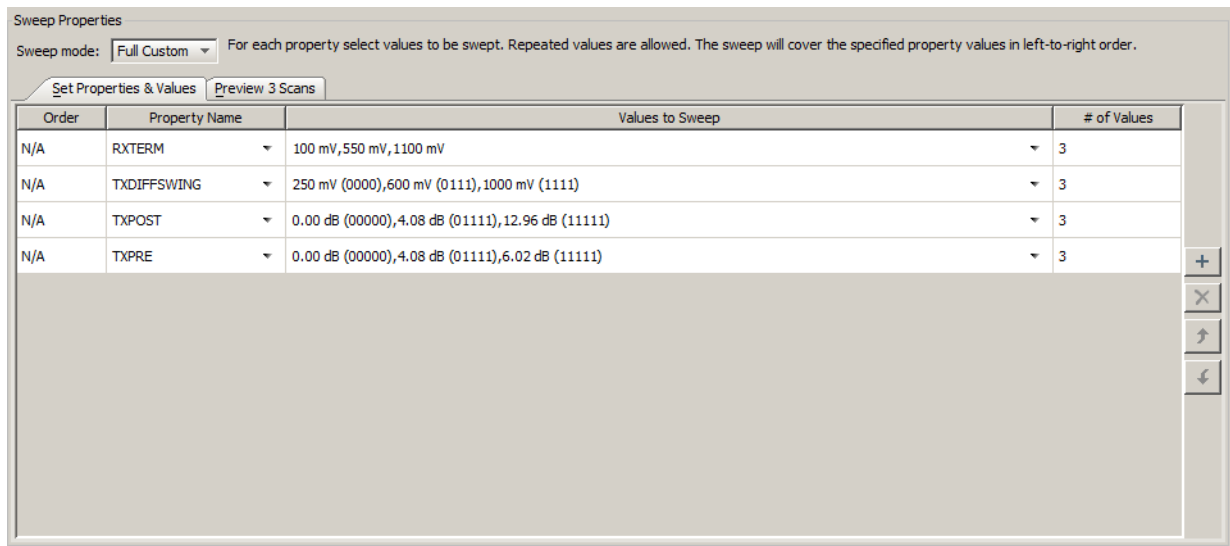

Figure 8-8: Sweep Properties Dialog Box
- In the Semi Custom case shown in Figure 8-8, every combination of the properties chosen is defined for a single scan, and that scan is performed according to the sweep properties. The number of sweeps that are performed, and in what order can be previewed by selecting the **Preview & Scans** tab.